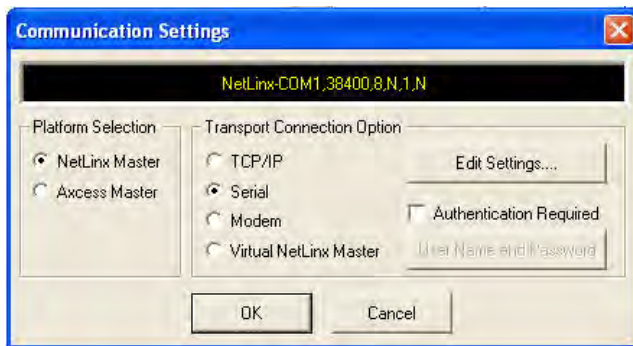

FIG. 35 Communications Settings dialog
3. Click the **Communications Settings** button to open the *Communications Settings* dialog (FIG. 35).